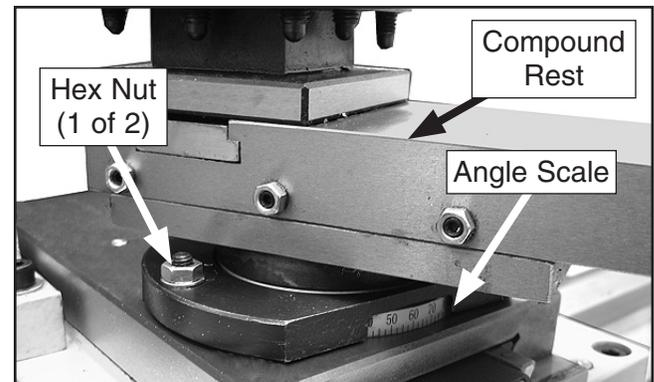

Figure 52. Compound rest.
1. Loosen the two hex nuts at the base of the compound rest (1 of 2 shown in **Figure 52**).